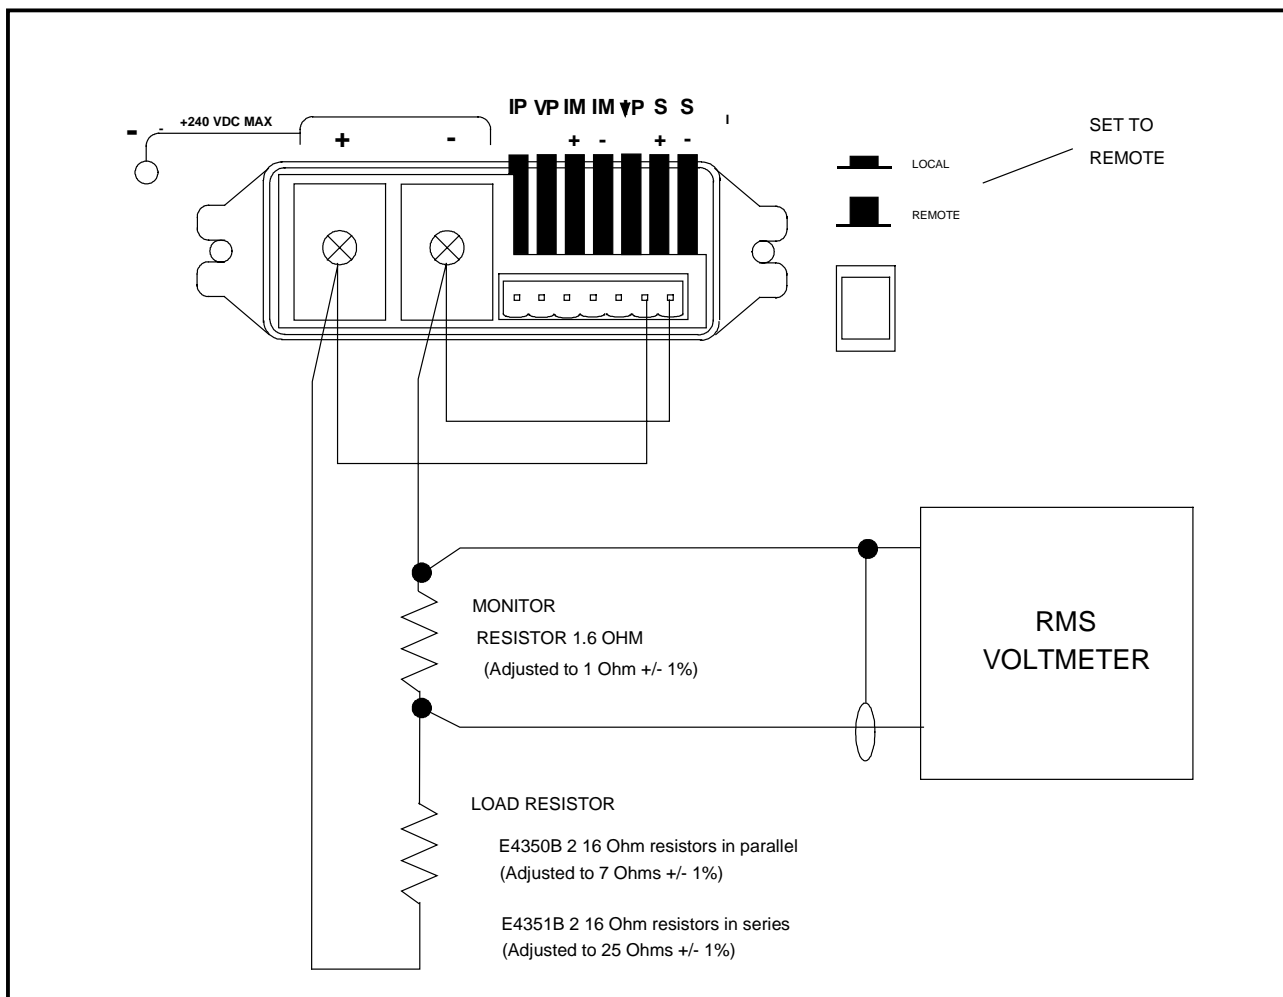

Figure 2-3. CC RMS Noise Measurement Test Setup
- CC RMS Noise Measurement Setup (Figure 2-3)
<p>* Enter your results in this column</p> <p>** PARD (Optional Test in SAS mode)</p> <p>Program I - V Curve: $I_{SC} = 8A$ $I_{MP} = 7.5A$ $V_{MP} = 60V$ $V_{OC} = 65V$ $R_L = 8$ Ohms.</p> <p>Use Fig 2-3 with scope across monitoring resistor for P-P ripple or RMS voltmeter for RMS.</p>
<p>* Enter your results in this column</p> <p>** PARD (Optional Test in SAS mode)</p> <p>Program I – V Curve: $I_{SC} = 4A$ $I_{MP} = 3.75A$ $V_{MP} = 120V$ $V_{OC} = 130V$ $R_L = 32$ Ohms. Use Fig 2-3 with scope across monitoring resistor for P-P ripple or RMS voltmeter for RMS.</p>